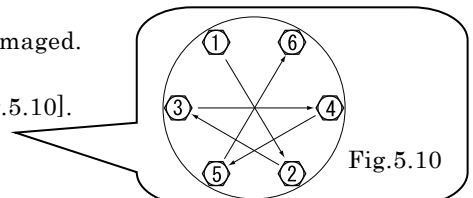

Fig.5.10
- Tighten the bolts gradually in a diagonal sequence with even torque. [Fig.5.10].